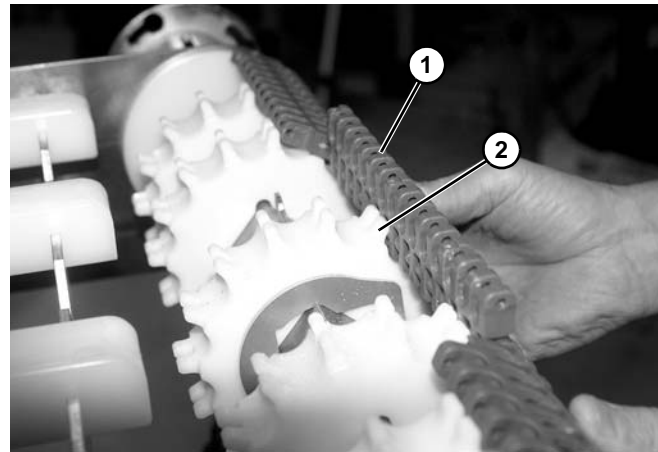

Figure 9
2. Orient the belt (Figure 9, item 1) around the drive end of the conveyor and engage with sprocket teeth (Figure 9, item 2), as shown.